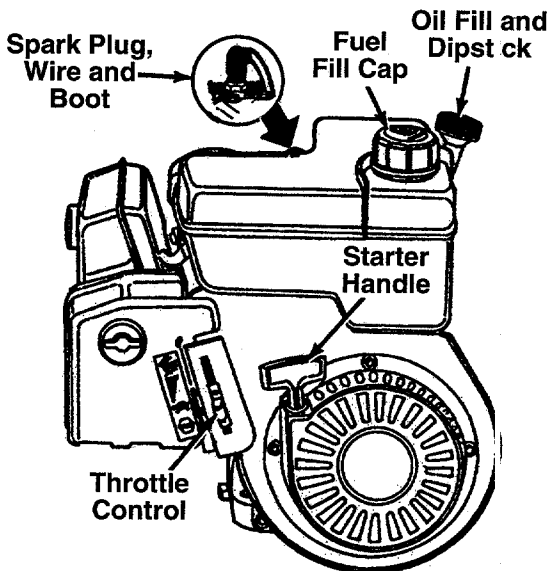
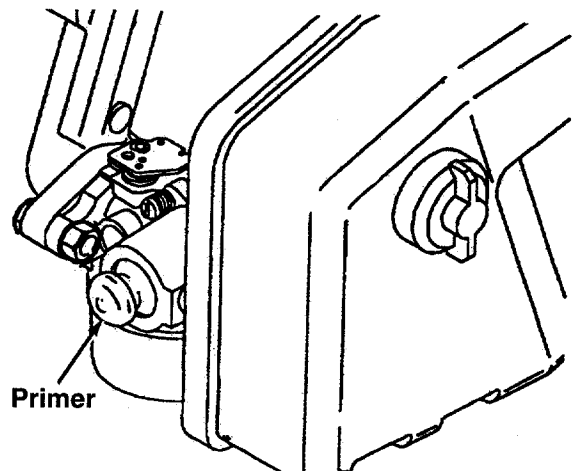

FIGURE 13.
FIGURE 14.
MAKE CERTAIN THE SPARK PLUG WIRE IS DISCONNECTED AND MOVED AWAY FROM THE SPARK PLUG BEFORE ASSEMBLING THE CHIPPER-SHREDDER. REFER TO FIGURE 13, PAGE 10.
PRIMER—Pumps additional fuel from the carburetor to the cylinder for use when starting a cold engine. See figure 14.
- Attach spark plug wire and rubber boot to spark plug. See figure 13.
- Place the throttle control lever in FAST position (UP).
- Push primer two or three times prior to starter operation. See figure 14. Use sharp pushes and wait about **two seconds** between each push. In cold weather (50°F or below), push primer five times.
- Grasp starter handle (see figure 13) and pull rope out slowly until engine reaches start of compression cycle (rope will pull slightly harder at this point). Let the rope rewind slowly.